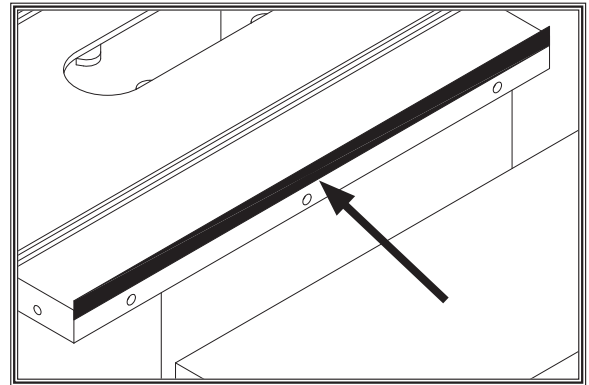

Figure 19. Masking tape location for tilting the extension wing down.
- If outside end of extension wing tilts up, remove wing and place a strip of masking tape along top edge of main table to shim end of extension wing down (see **Figure 19**).